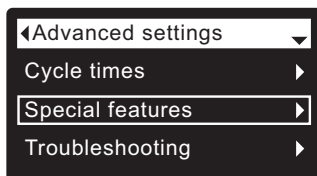

FIG. 71
3. Press the SELECT (O) button to display the Advanced settings menu (See Figure 71).